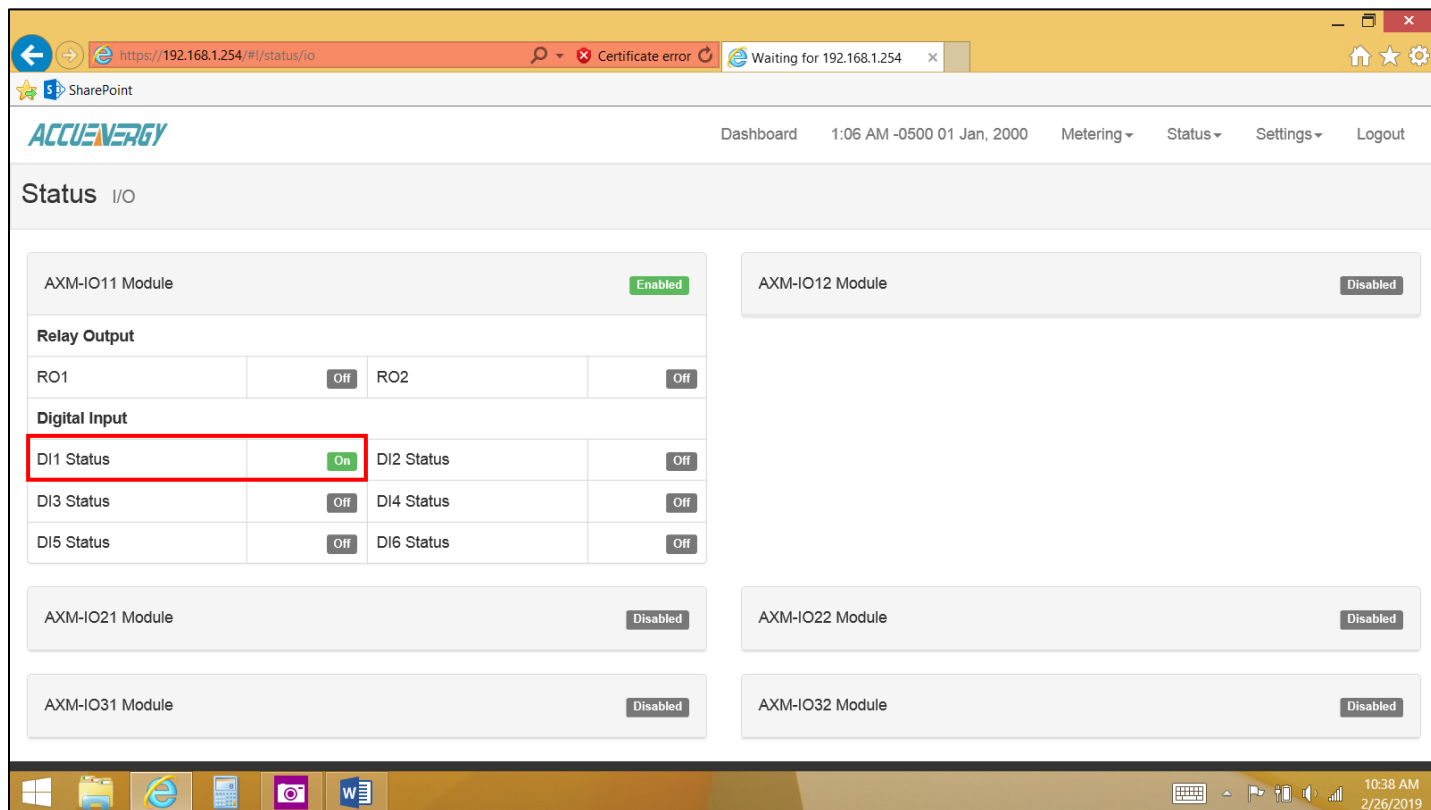

Figure 6—Over Temperature Alert -DI1 Status
- Consult the Acuvim II Series Meter Web Server information located in the Accuenergy manual **section 5.2.11** for more information on how to read this sensor and set it up as an alarm. The web browser alert is shown in **Figure 6** below as “DI1 Status ON.”